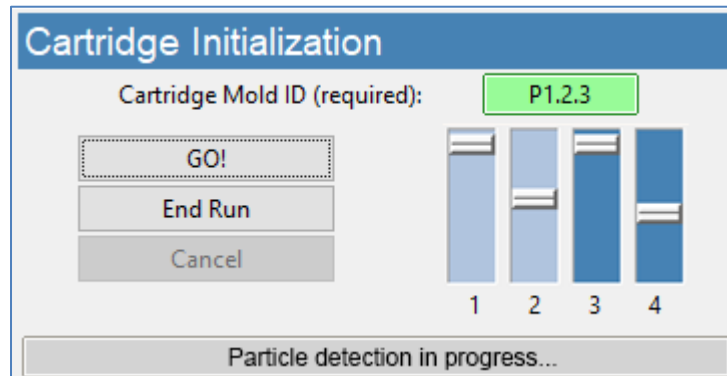

Figure 5. Cartridge Initialization frame and fill monitors after successful
- Press “GO!” to prime the cartridge and **start data acquisition automatically** (see Figure 5).
- The fill monitors are vertical sliders in the Cartridge Initialization frame that indicate the fill status in various parts of the cartridge (see Figure 5).
- After normal priming, the fill monitors should have approximately the pattern shown in Figure 5.
- After acquiring sufficient data, press “End Run” (Cartridge Initialization frame, see Figure 5).